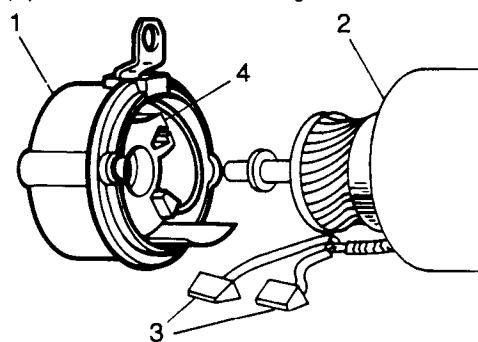

Fig O6.12
- (4) Refer to Fig O6.12. Partially withdraw the commutator end cover (1) from the yoke (2) and disengage the two field coil brushes (3) from the brush box moulding (4).
- (5) Withdraw the commutator end cover.